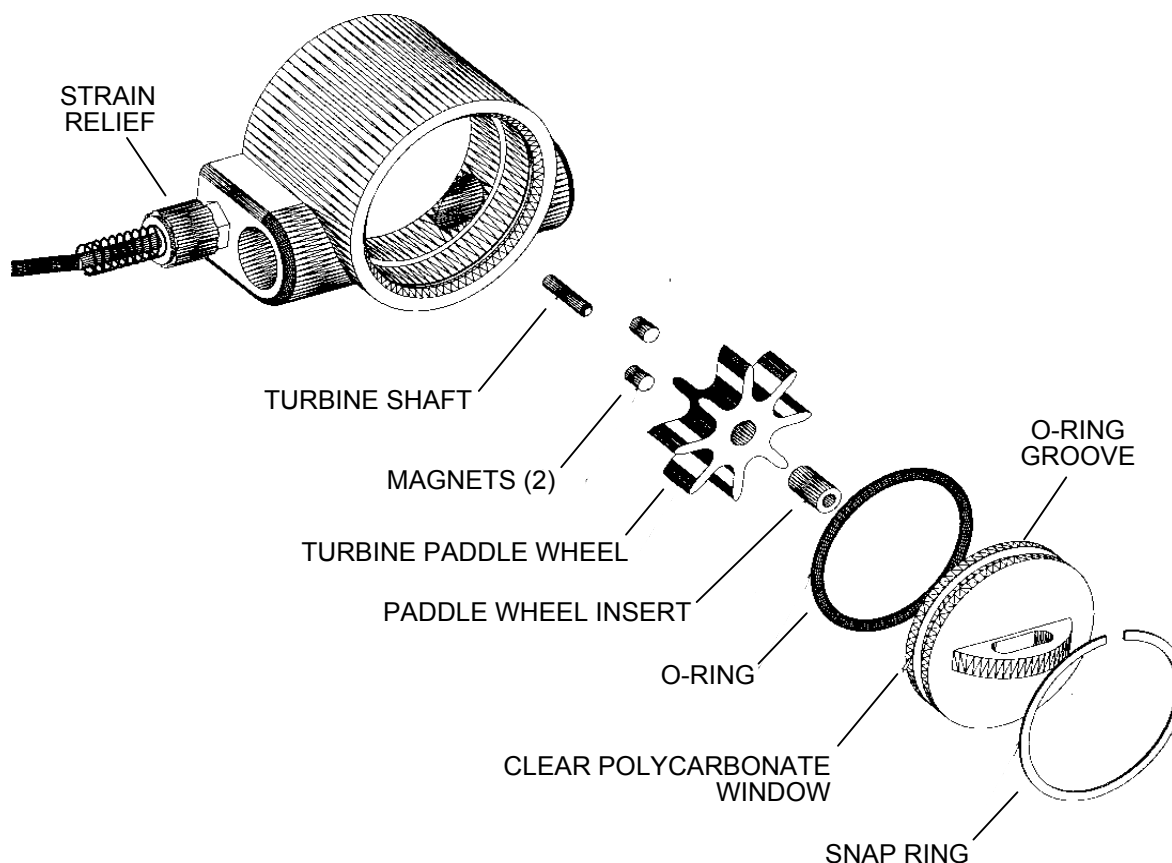

Figure 6-2. Flow Sensor, Part No. 64006 – Exploded View
- 4) Refer to Figure 6-2 and disassemble the Flow Sensor as follows: